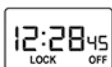

Figure12
4.2.4. When the setting is completed, press the "MD" button for 3 seconds to exit the settings until the "LOCK" character shows up, as Figure12 shows.